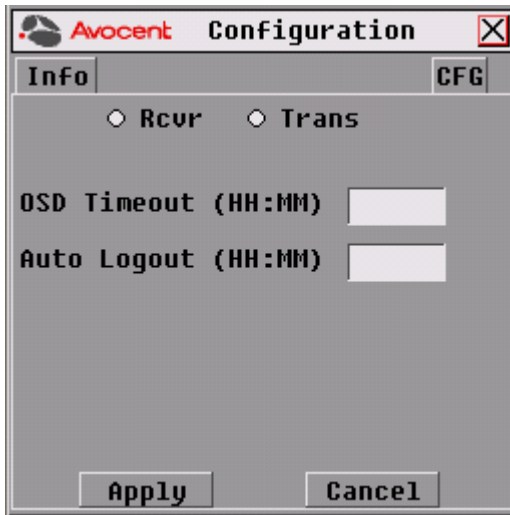

Figure 3.6: Configuration Menu (OSD Timeout and Auto Logout)
1. Press **Print Screen** and select the *CFG* tab (see Figure 3.6).